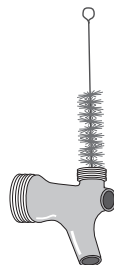

fig. 2
3. Use small brush to clean beer faucet parts (fig. 2).